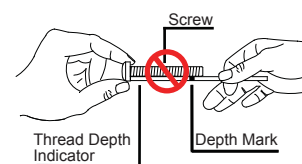

Figure 3
- 5) If the screw you selected is longer than the mark on the Thread Depth Indicator, as shown in Figure 2 and Figure 3, do not use this screw. The screw length must not bypass the mark.